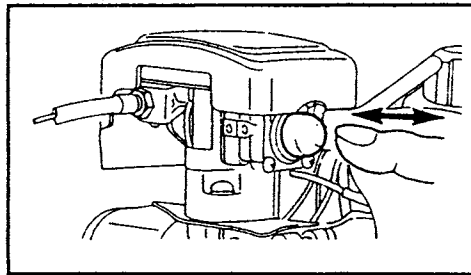

Figure 9
2. Push the primer button to feed the fuel to the carburetor until fuel overflows from the carburetor. See Figure 9.